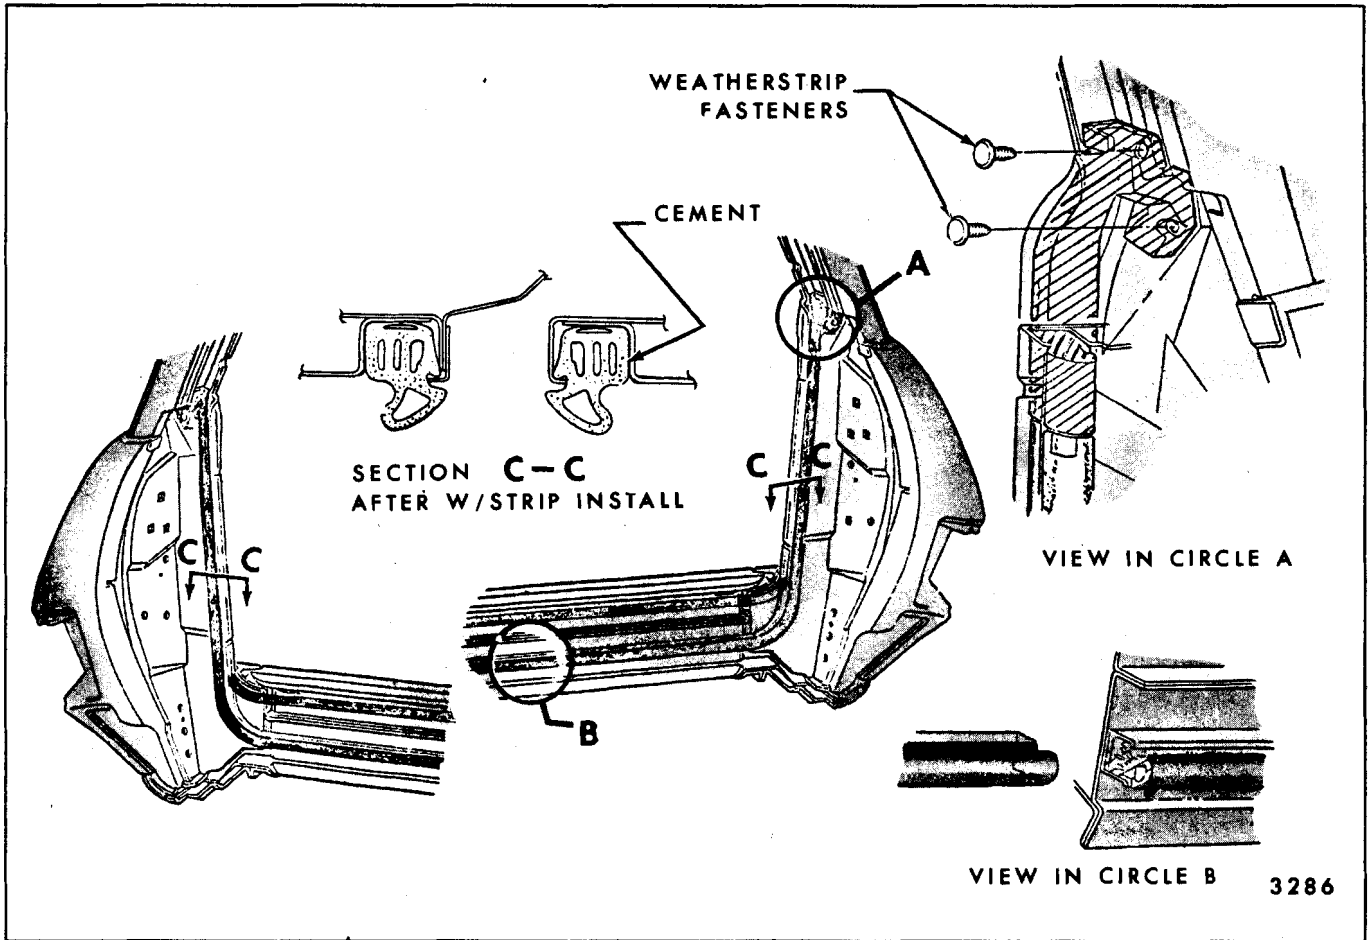

Fig. 9-32-Tail Gate Weatherstrip Installation
1. Open tail gate and remove fasteners and/or screws securing upper corners of weatherstrip to right and left body pillars (Fig. 9-32).